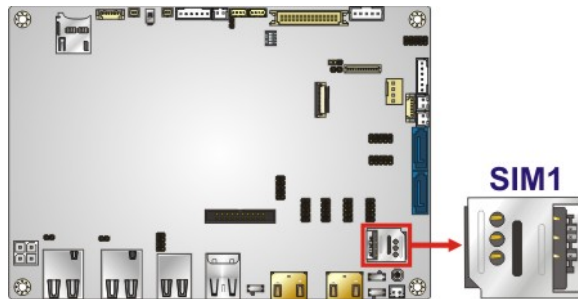

Figure 3-28: SIM Card Slot Location
- CN Location:** See **Figure 3-28**